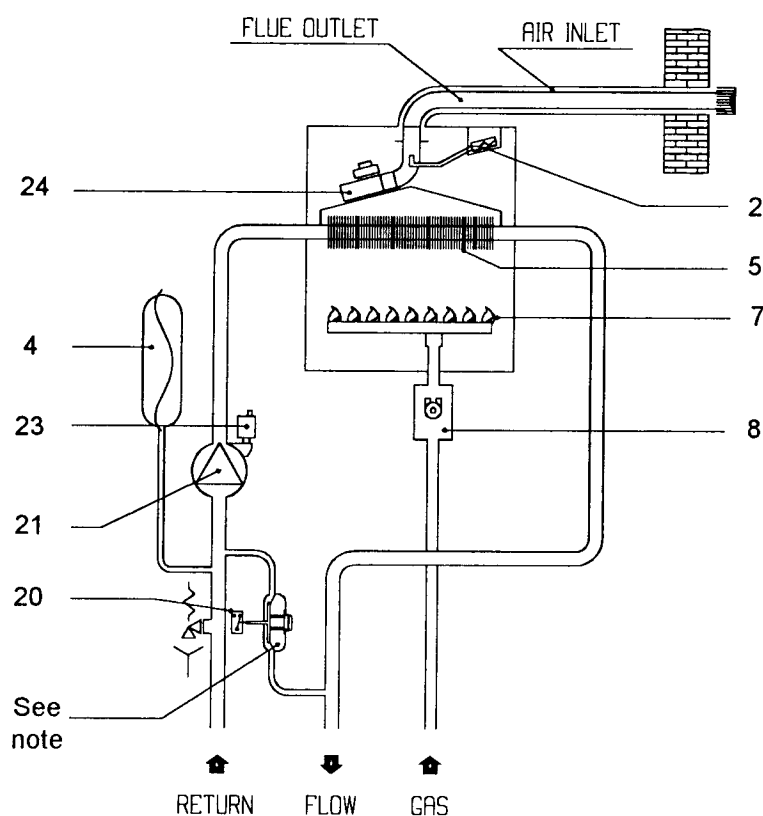

Fig. 2
2.1 Fig. 1 illustrates the general layout of components. Fig. 2 illustrates the operating principles described below.